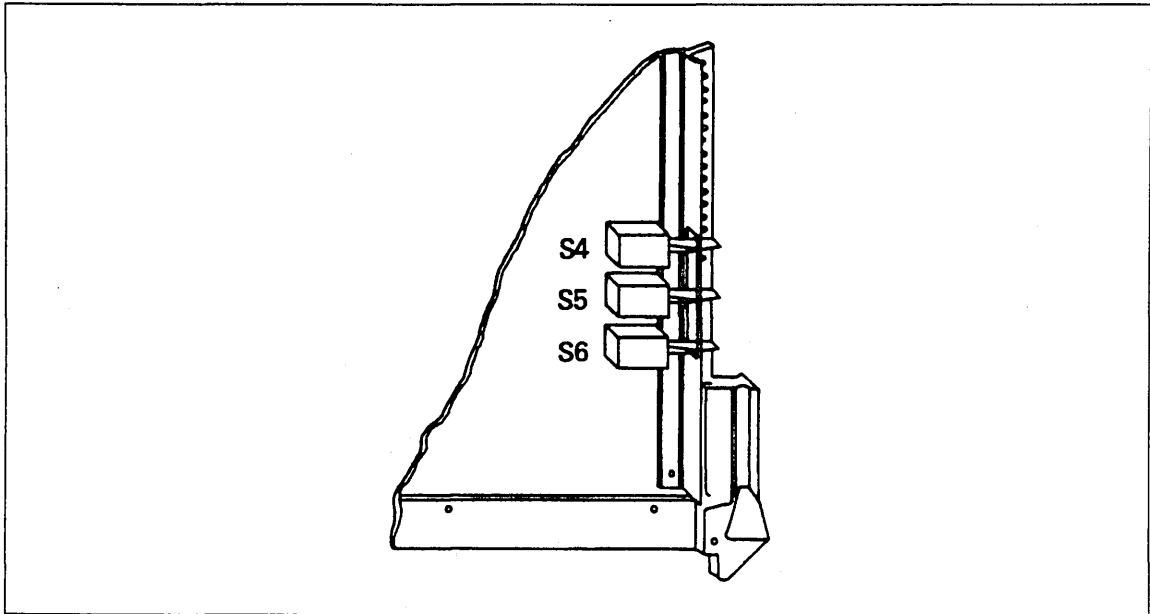
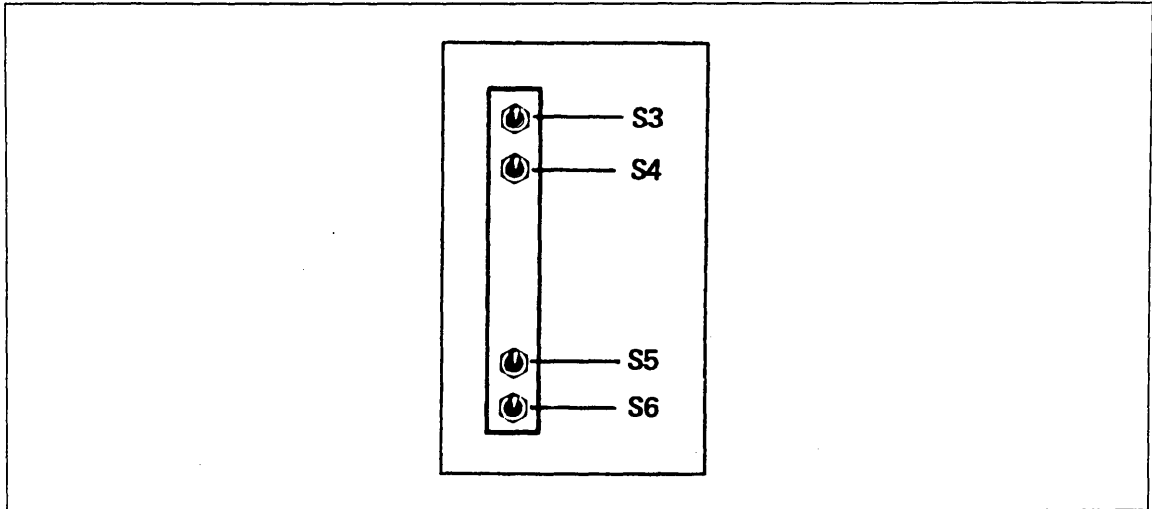

Figure G-13. Switch Numbering Scheme for Models 815 and 825 Without Memory Upgrade Option
Figure G-15. Switch Numbering Scheme for Models 835, 845, and 855 Without Memory Upgrade Option
4. If all of the CM reconfiguration switches (refer to figures G-13 and G-14 for models 815 and 825; figure G-15 for models 835, 845, and 855; and G-17 for model 990 without the memory upgrade option) are centered, reset them to the position shown in the Reconfiguration Setting Switch Number column and deadstart. If the switches are not centered before the attempt to reconfigure, additional reconfiguration is not recommended.